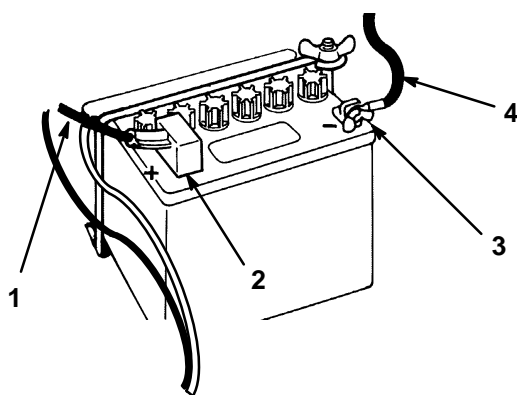

Figure 28
8. Install the battery into the chassis (Fig. 28).
10. Using the bolt and wing nut, connect the positive (red) cable to the positive (+) battery post (Fig. 28). Slide the rubber cover over the battery post.
11. Using the bolt and wing nut, connect the negative (black) cable to the negative (–) battery post (Fig. 28).